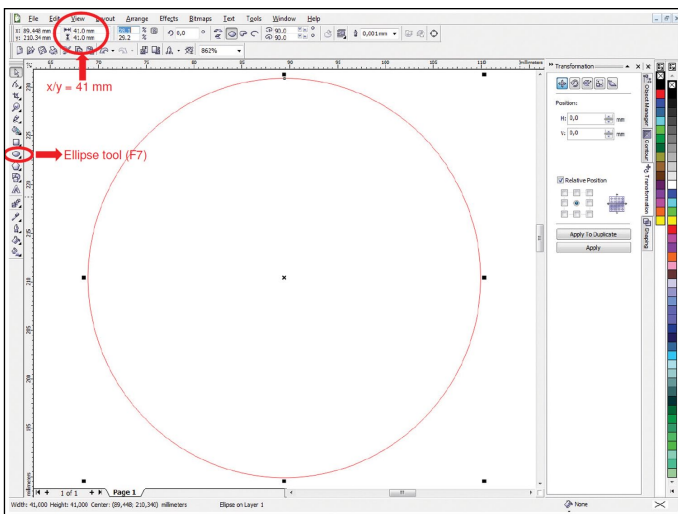

Figure 2: Creating the cutting line for the outer contour
- Select the Ellipse tool and simultaneously hold down the CTRL key, draw a circle, select the circle and enter the desired dimensions directly into the dialog boxes (see Figure 2).